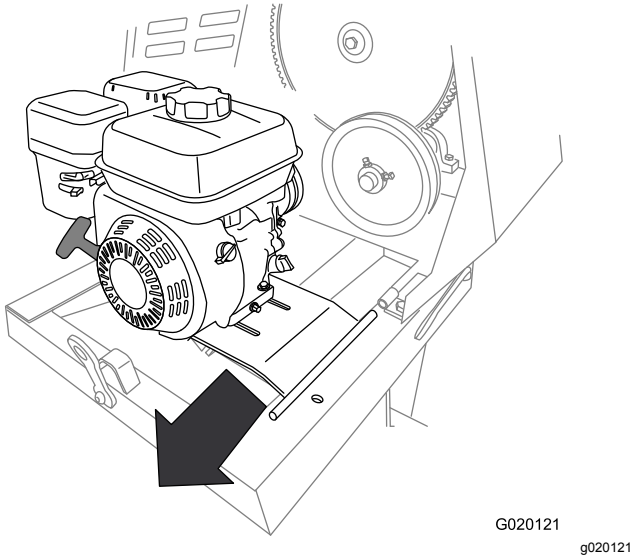

Figure 49
10. Slide the engine deck rearward and out from the forward hinge bracket (Figure 49).
11. Remove the engine and engine deck from the machine (Figure 49).
2. Align the pivot on the engine deck with the forward hinge bracket (Figure 49).
3. Slide the engine deck forward and the pivot into the forward hinge bracket (Figure 49).
4. Align the rear hinge bracket with the pivot on the engine-deck hinge (Figure 49).